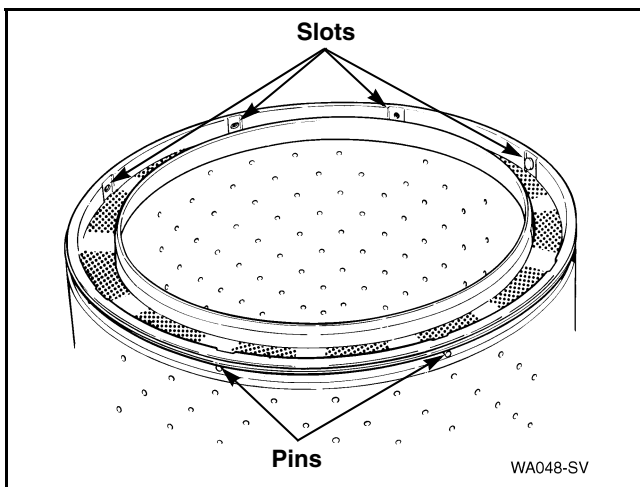

Figure 29
- Place a small screwdriver in behind the slots provided in the lint filter. Refer to *Figure 29*.
- Carefully pry the pins of the lint filter out of the holes in the washtub. Refer to *Figure 29*.